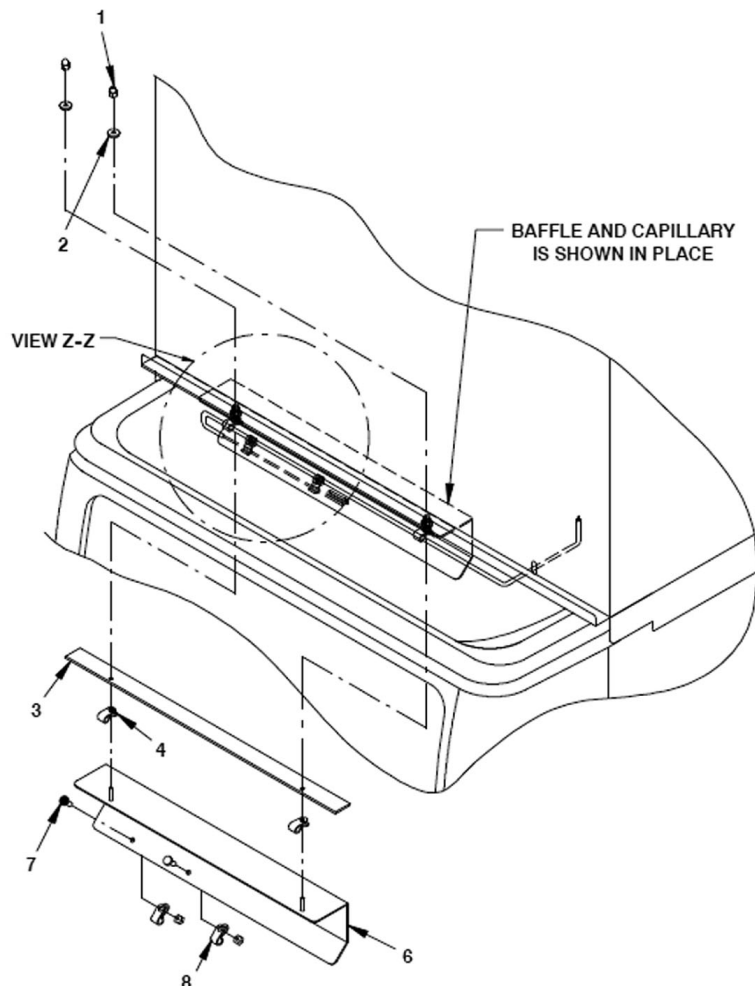
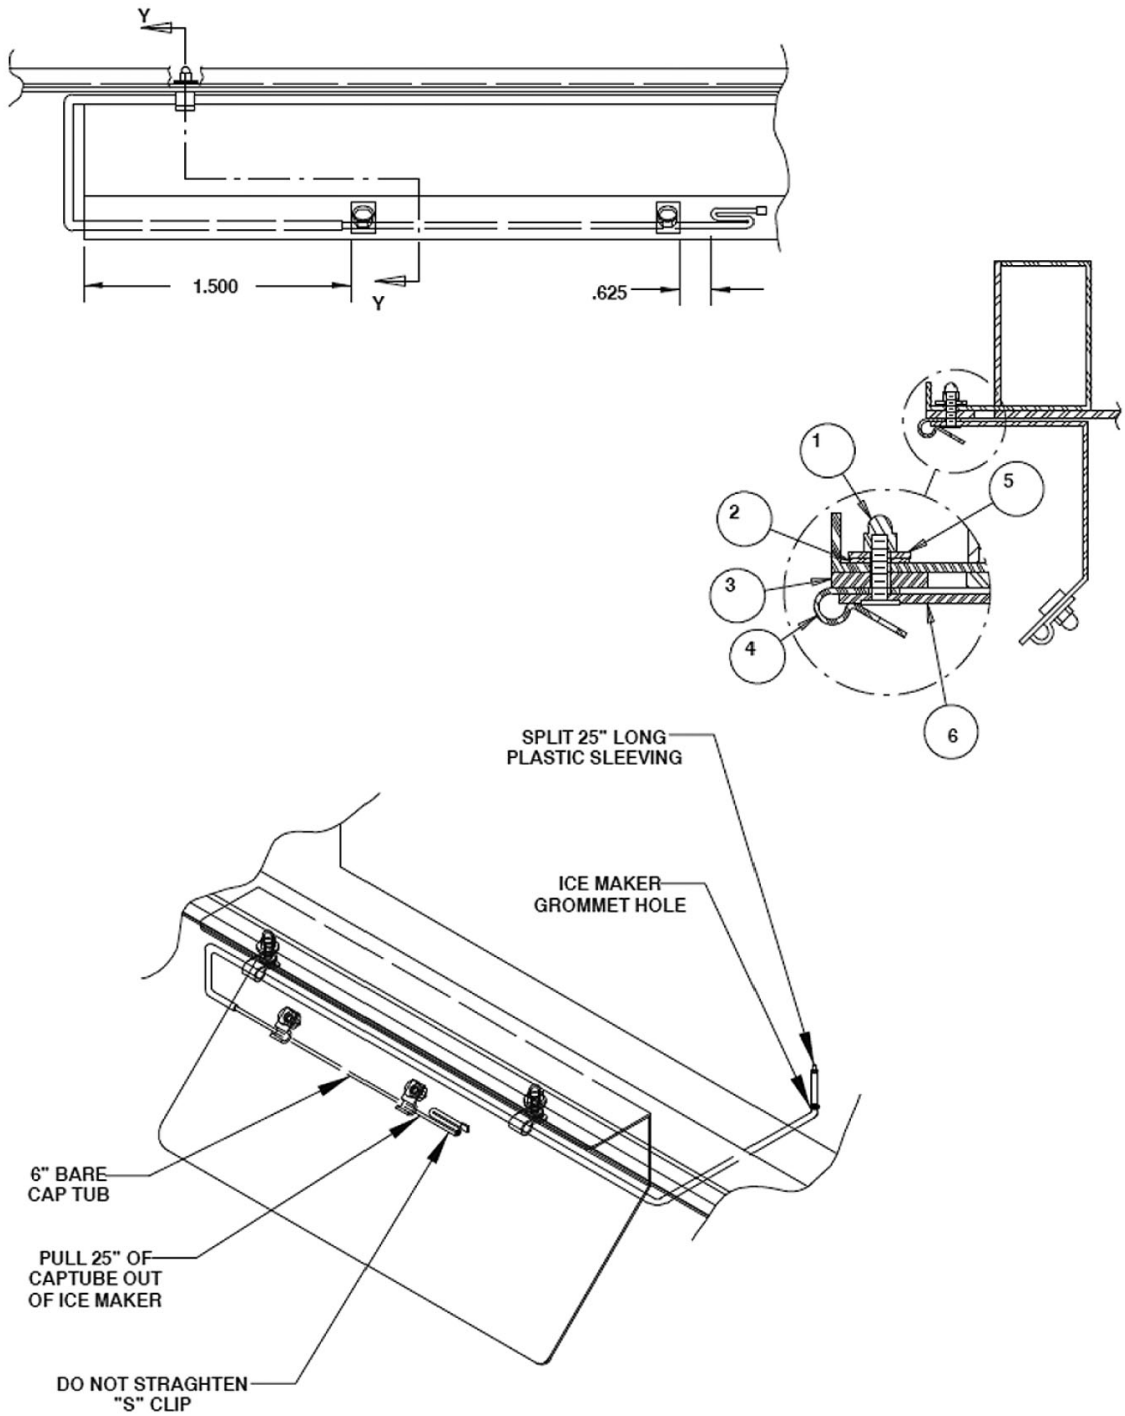

Figure 1. ED150 Baffle Kit
Figure 2. ED150 Baffle Kit Details
REFER TO FIGURE 1 AND FIGURE 2
3. Use plastic insulation strip (item 3) as a drill template. Place edge of template flush with front edge of "J" channel and center left to right on adapter. Tape in place.
4. Drill (2) 3/16" diameter holes using care to catch and remove all metal shavings from the dispenser.
7. Pull 32" of capillary out of bottom of the ice maker. Slit and place plastic sleeve (item 9) over the capillary tube leaving 6" of bare capillary tube exposed between capillary "S" bend and sleeving.
8. Assembly (2) 1/8" plastic clamps (item 8) to the back side of the SS baffle (item 6) with (2) 8-32 x 3/8" screws (item 7) and plastic acorn nuts (item 1). Do not tighten.
9. Route capillary tube around baffle as shown in Figure 1 and Figure 2.
10. Position (2) 1/4" plastic clamps (item 4) on studs of SS baffle (item 6) and (2) plastic flat washers (item 5) on studs as shown in Section YY.
12. Place (4) sealing washers (item 2) over studs and fasten in place with (4) plastic acorn nuts (item 1).
13. Route and form capillary as shown in Figure 1 and Figure 2. Tighten (2) plastic clamps (8-32 x 3/8" screws) to hold capillary tube in place.